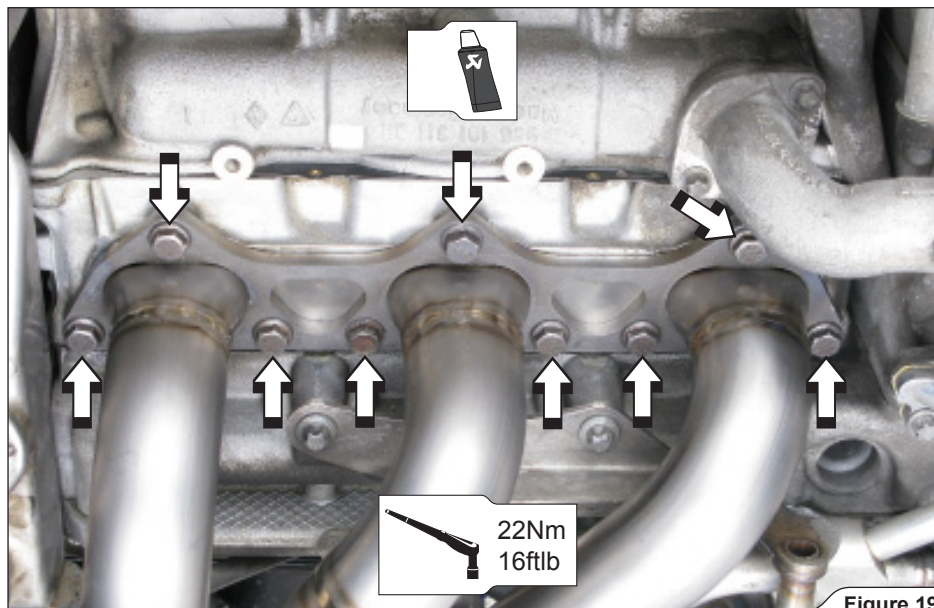

Figure 19
1. **For Evolution and Evolution-Race:** set the Akrapovič headers with stock gaskets and tighten the stock bolts to a specified torque using criss-cross pattern in three steps (**Figure 19**).